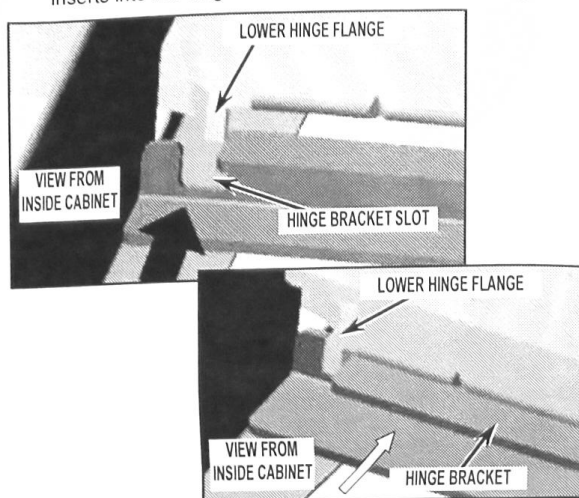

FIGURE 8
10. Slide hinge bracket to the left, so the lower hinge flange inserts into the hinge bracket slot as shown. See Figure 8.